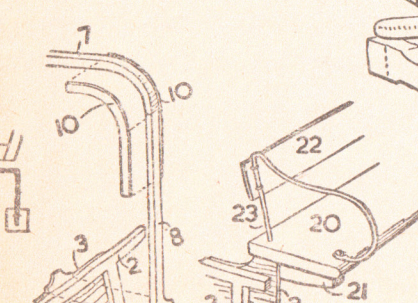

Fig. 2—Hood support
The canopy itself is merely a stiff paper covering supported on cross framework. These supports are shown in Fig. 2 and the direction of grain should be noted in parts 7, 8 and 9. 7 and 8 form the top and side, and then a strengthening piece (10) is added round the angle each side to stiffen up (see Fig. 2). The base of Part 8 is glued on the similarly shaped projecting piece on the side. The rear upright (9) is dealt with in the same way. A study of the side and front view will help right through the construction.